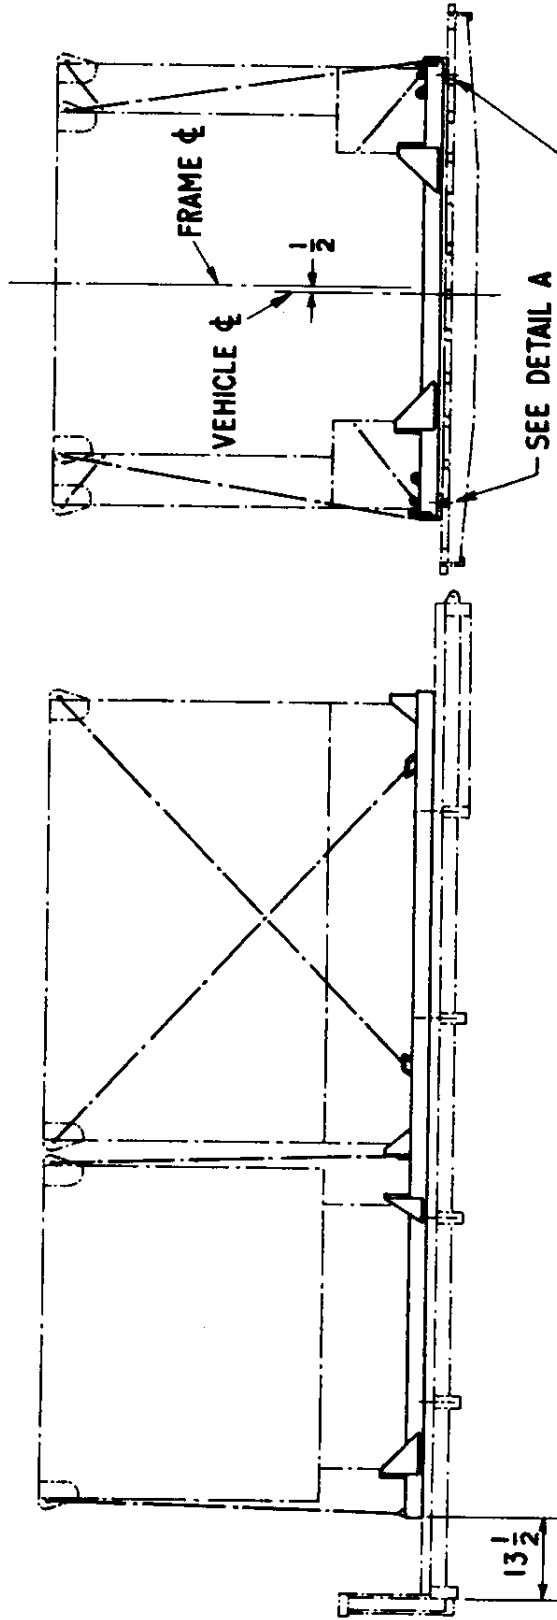

FIG 1 - INSTALLATION, FRAME, ASSEMBLY, MOUNTING SHELTER ELECTRICAL S144/G
- a. Place frame assembly mounting shelter on truck and align (as shown in fig 1) so that a set of mounting holes align with the flanges of the truck's transverse body members.